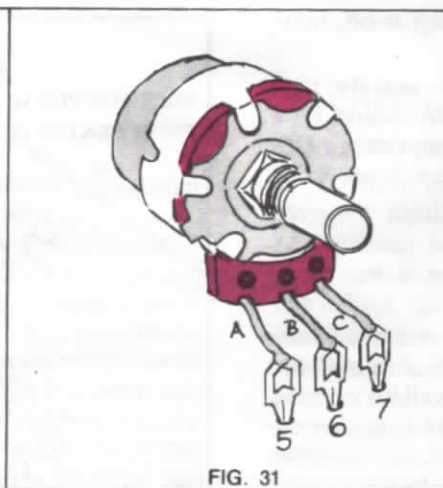

FIG. 31
6. Carefully place the lugs A, B; and C of the pulse repetition control R4, 5 meg, potentiometer on top of pins 5, 6, and 7 as shown in Figure 31. Solder lug A to pin 5, lug B to pin 6, and lug C to pin 7. R4 is a variable resistor that will control the charging rate of C2, which will, as a result, control the flash rate of the xenon tube V2.